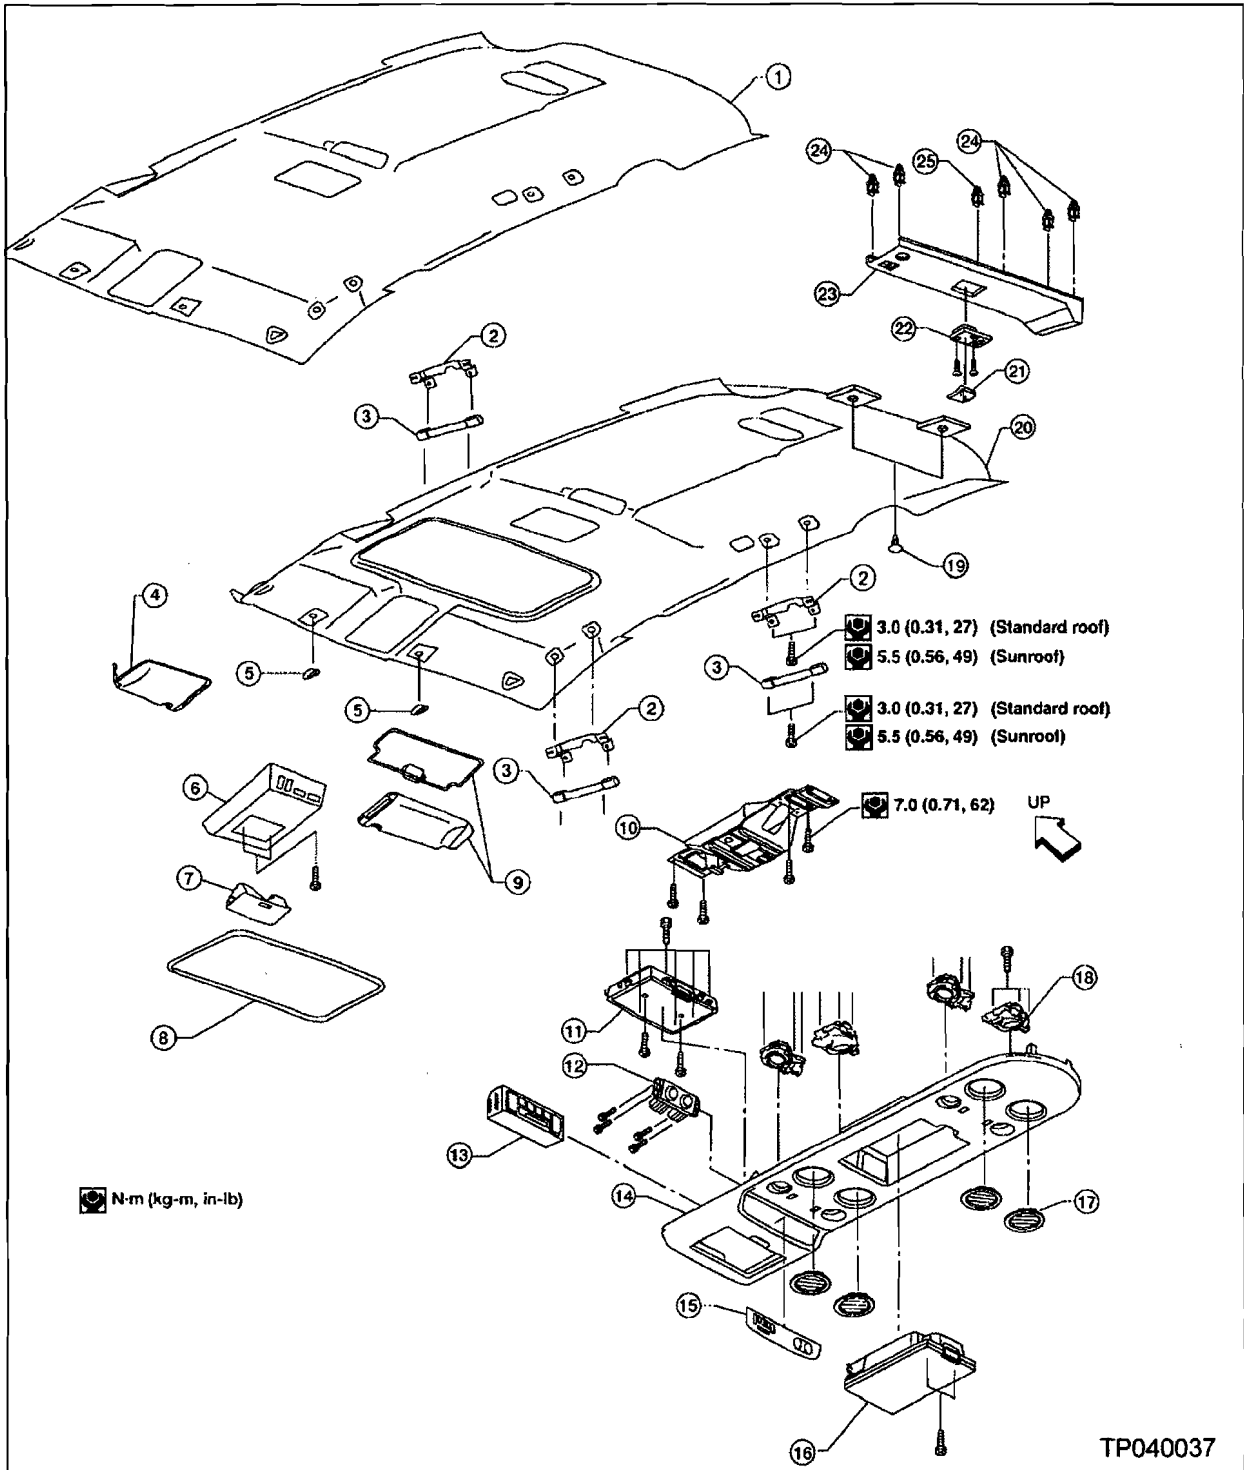

Figure A37
5. Remove the following items from the roof: Refer to Figure A37 on the next page:
- Variations in model trim levels may require the removal of additional items shown in Figure A37.